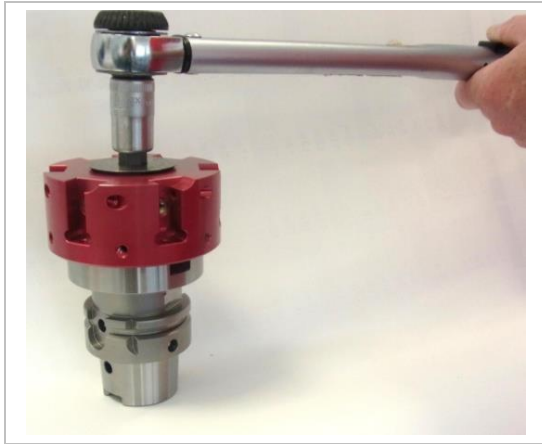

Figure 5: Clamping tool
5. Turn the centering screw to the stop with the aid of the torque wrench (see "Figure 5: Clamping tool").